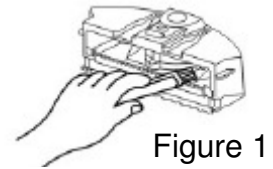

Figure 1
1. First dump the dust, and then clean it with dust brush. (Refer to Figure 1)